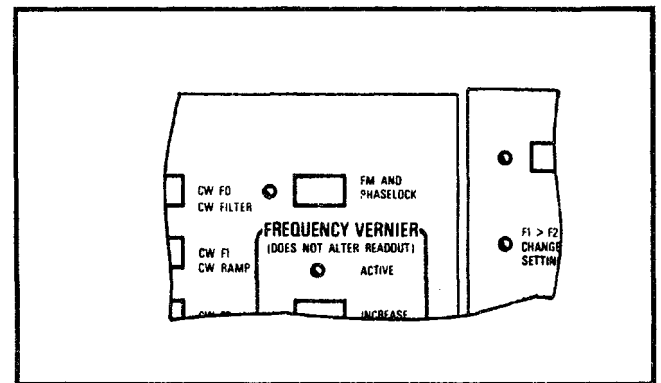

Figure 3-13. FM AND PHASELOCK Pushbutton
- d. **FM AND PHASELOCK Pushbutton** (Figure 3-13). This pushbutton allows the sweep generator output frequency to be either frequency-modulated or phase-locked to an external frequency standard. The external FM or phase-lock signal is input via